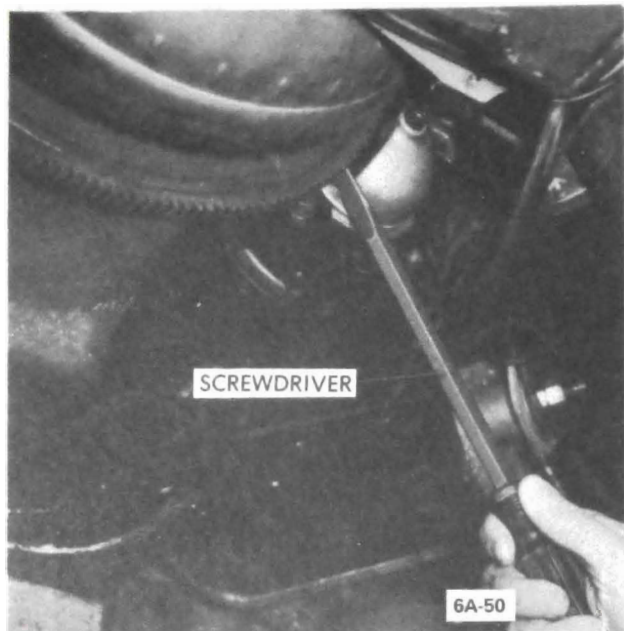

Figure 6A-50 - Locking Flywheel to Torque Harmonic Balancer Bolt (350 cu.in. Shown)
5. Install harmonic balancer, bolt and washer. By using a screwdriver or other suitable tool, lock flywheel and torque bolt to (140-160 lb. ft. on 350 cu.in.) and (200-220 lb. ft. on 455 cu.in.) See Figure 6A-50.